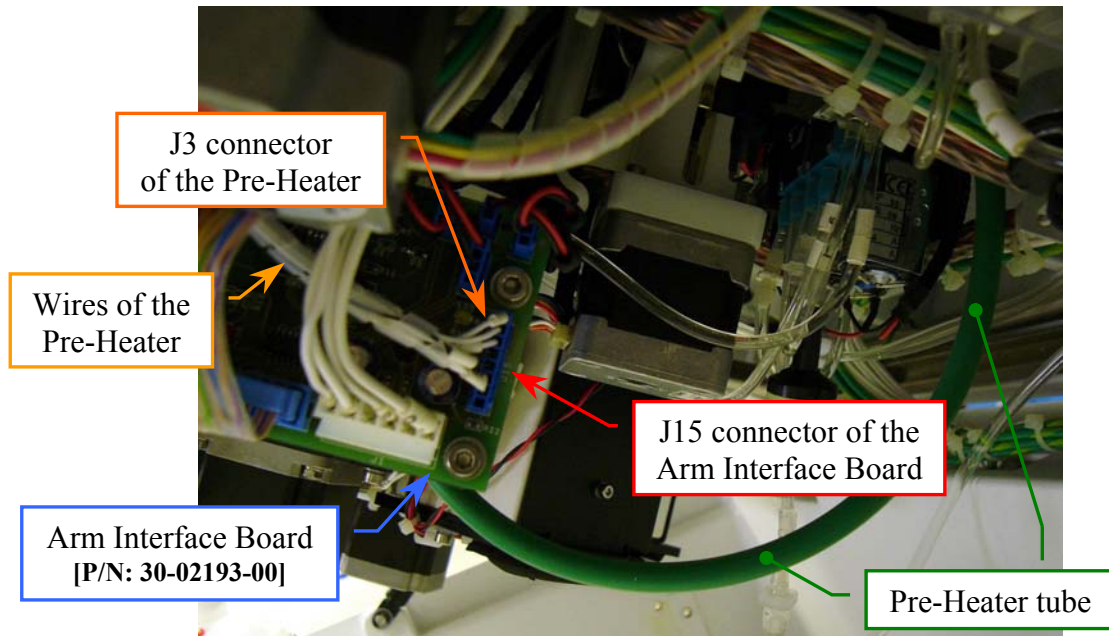

Fig. 46 – J15 connector of the Arm Interface Board
9. Unplug the J3 connector of the Pre-Heater from the J15 connector of the Arm Interface Board (compare the scheme SC-30-02193-00 and the **Fig. 46**).
17. Plug the J3 connector of the Pre-Heater in the J15 connector of the Arm Interface Board (compare the scheme SC-30-02193-00 and the **Fig. 46**).